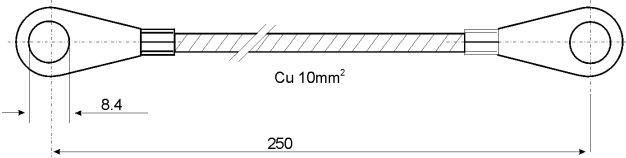

Fig. 8 Flexible copper strap (supplied with every load cell)
- Directly when installing the load cell, by- pass the load cell with the flexible copper strap of at least 10mm² provided for this purpose (fig. 8), to prevent welding or lightning stroke current from passing through the load cell and damaging it.